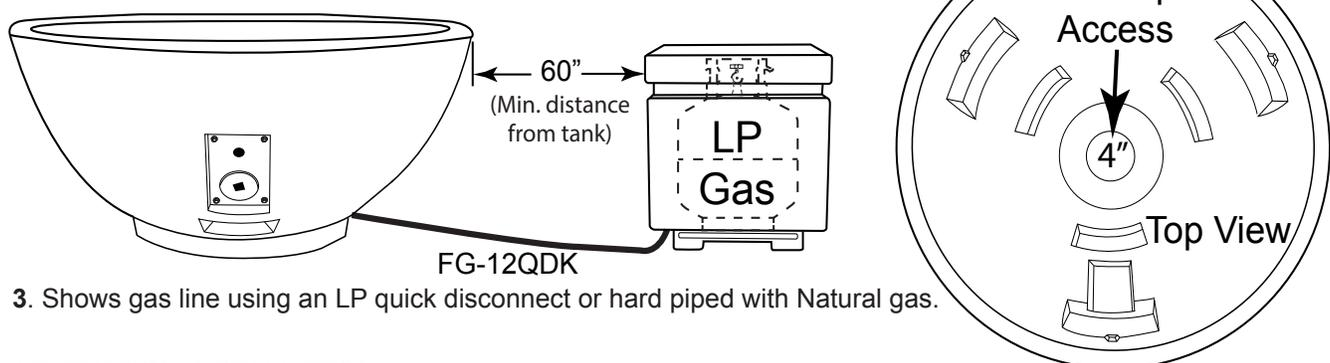

Fig 3. Shows gas line using an LP quick disconnect or hard piped with Natural gas.
The Sanctuary 2 and 3 can be plumbed with either Natural or Propane (LP) gas. See Fig. 3. If you choose to run hard pipe to Sanctuary models, enter through center (bottom) of the bowl; protrude pipe no higher than 6" above ground level.
1. Do not place an LP tank inside any fire feature enclosure. Locate all propane (LP) tanks outside the enclosure inside an approved separate enclosure a minimum of 60" from the Sanctuary Series. Flex line can run through any vent holes. If using Propane gas an FG-LPRK regulator (not included) must be used and a FG-12QDK quick disconnect kit (not supplied) enables the use of a Propane (LP) gas tank connection. See Fig. 3.
Main Burner Orifice - All fire features **MUST** have a main burner orifice installed on the inlet side of the burner. An orifice limits the amount of gas flow to the burner to ensure the flame is a safe and reasonable height to not pose a risk to people or property. The drawings below show the difference between a Natural Gas (NG) and Propane (LP) orifice. LP gas requires ventilation holes at the base of the orifice to provide a cleaner flame. See Fig. 3.